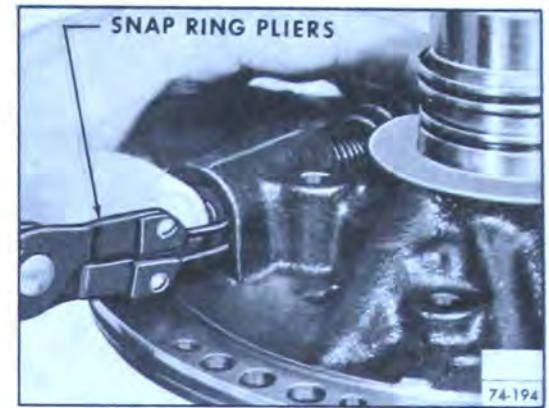

Figure 74-194
6. Compress boost valve sleeve with thumb, then install retaining snap ring. See Figure 74-194.